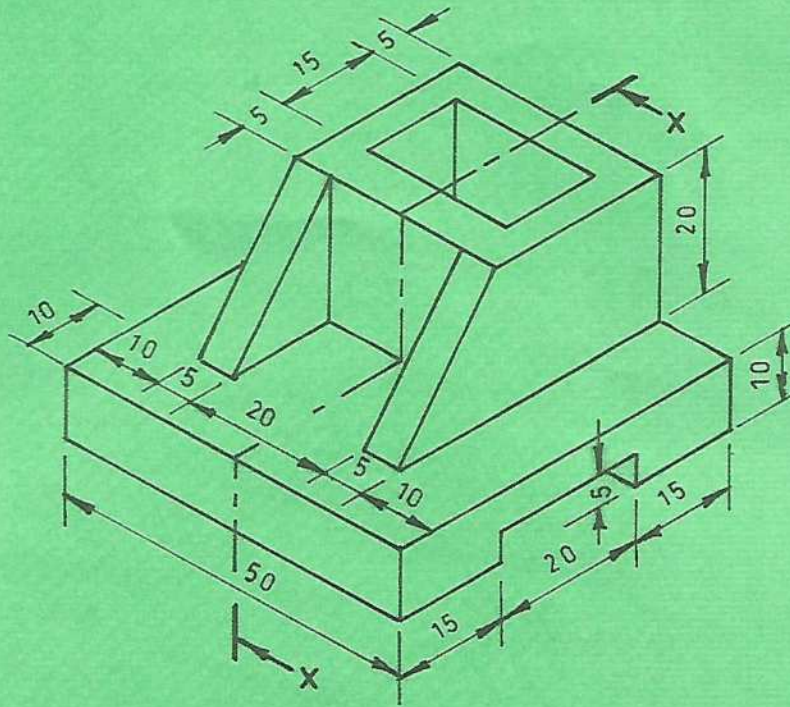

Fig. 13
13. (a) Figure 13 shows a support footing with a through rectangular hole and a chase on the bottom.